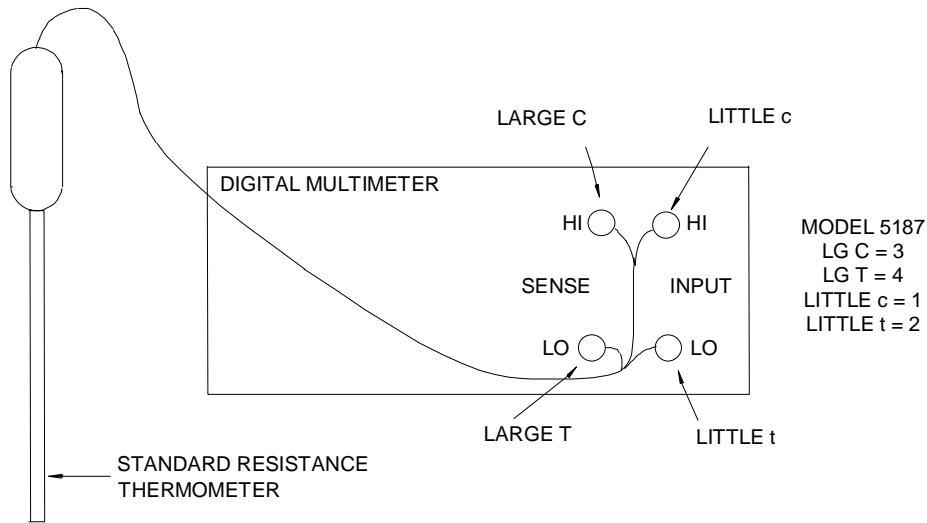

Figure 2.
4.2.3.2 Connect equipment as shown in Figure 2.